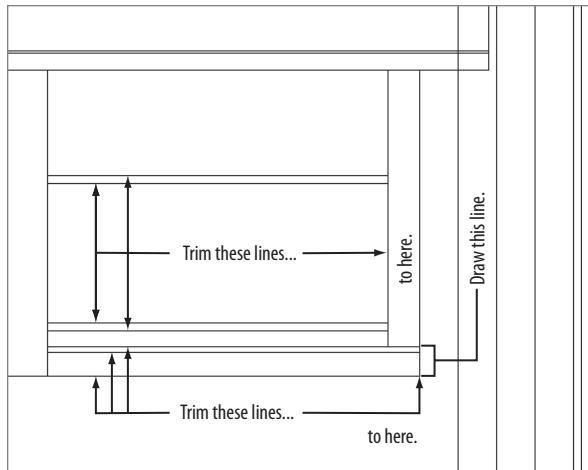

FIGURE 10.21: The deck and post lines after trimming them back to their proper lengths
- c. Draw a short vertical line from the bottom of the right post line to the lowest horizontal line, as shown in Figure 10.21.